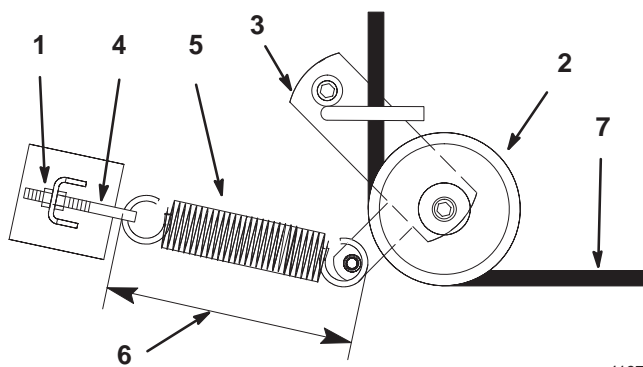

Figure 56
3. Loosen the outer nut on the spring eye bolt (Fig. 56).
5. Remove the spring loaded idler pulley (Fig. 56).
6. Route the new belt through the idler arm (Fig. 56).
8. Tighten the outer nut on the spring eye bolt (Fig. 56).
Note: Check the spring length. The spring should measure 9-3/8 ± 1/8 in. (238 ± 3 mm) when installed. Adjust if it does not (Fig. 56).